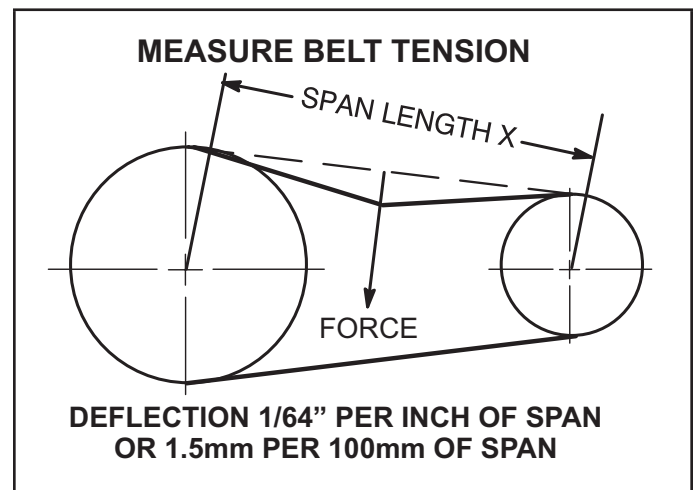

FIGURE 20
- 1 - Measure span length X. See FIGURE 20.
- 2 - Apply perpendicular force to center of span (X) with enough pressure to deflect belt $1/64$ " for every inch of span length or 1.5mm per 100mm of span length.